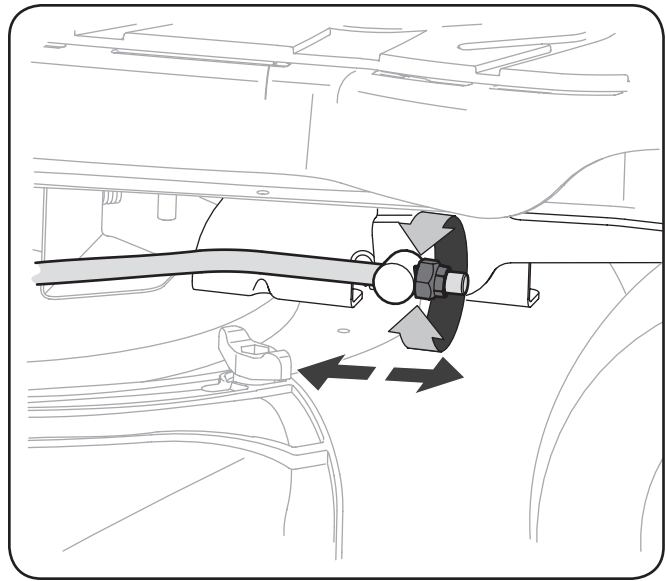

Figure 6-4
3. Locate the flange lock nut on the front end of the PTO Lift Rod. See Fig. 6-4.